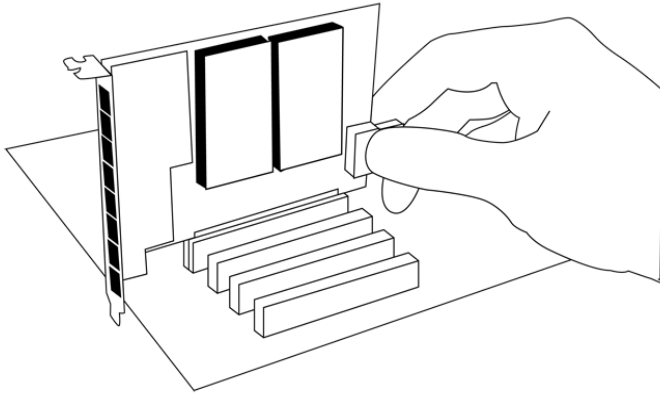

Figure 6: Connect Power for FXS Modules
4. If your card has any FXS modules, you will also need to connect the power cable from your computer's power supply to the back of the card. Insert a four-pin 12 volt connector (disk drive power supply cable, e.g. hard drive) into the power connector on the rear of the card. See Figure 6.